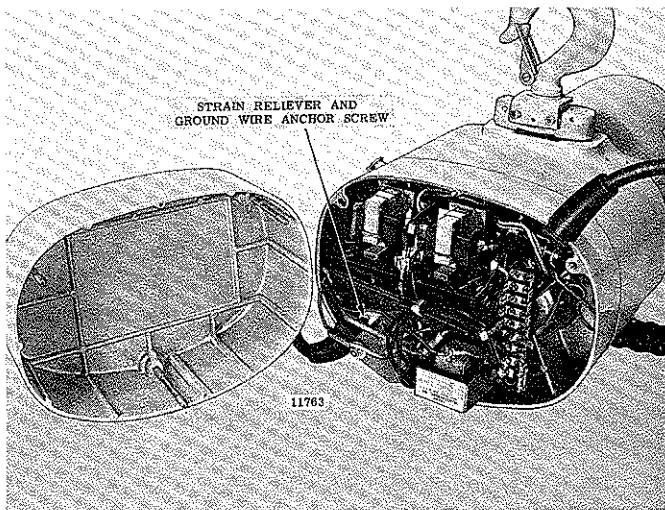

Figure 7-4. View of Push Button Model Hoist with Electrical Compartment Cover Removed
(1) Disconnect hoist from power source. Remove three cover retaining screws and lift off cover (figure 7-4). Cover screws have retaining rings which hold them in cover. Use caution as some covers contain counterweights. Two speed hoists with a 2-¼ horsepower motor have an externally mounted counterweight at the electrical compartment cover.
(2) Disconnect push button conductor cable leads at plug-in type connectors that can be pulled apart. Remove screw and washer securing strain reliever (fig. 7-4) and pull the cable and grommet from its slot in gear case cover.
(3) Disconnect power supply flexible cable leads from terminals of contactor. Remove screw attaching ground leads to gear case cover and pull flexible cable and grommet from slot in cover.
(4) Disconnect motor leads from electrical control units. Number of leads depends on type of motor. (See wiring diagrams in Section VIII).